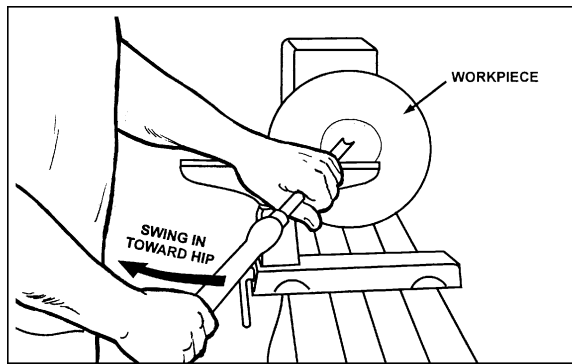

Figure 9-11
5. Place 1/2" bowl gouge on tool support at center of the workpiece with the flute facing top of bowl. The tool handle should be level and pointed toward the four o'clock position, as shown in Figure 9-11.